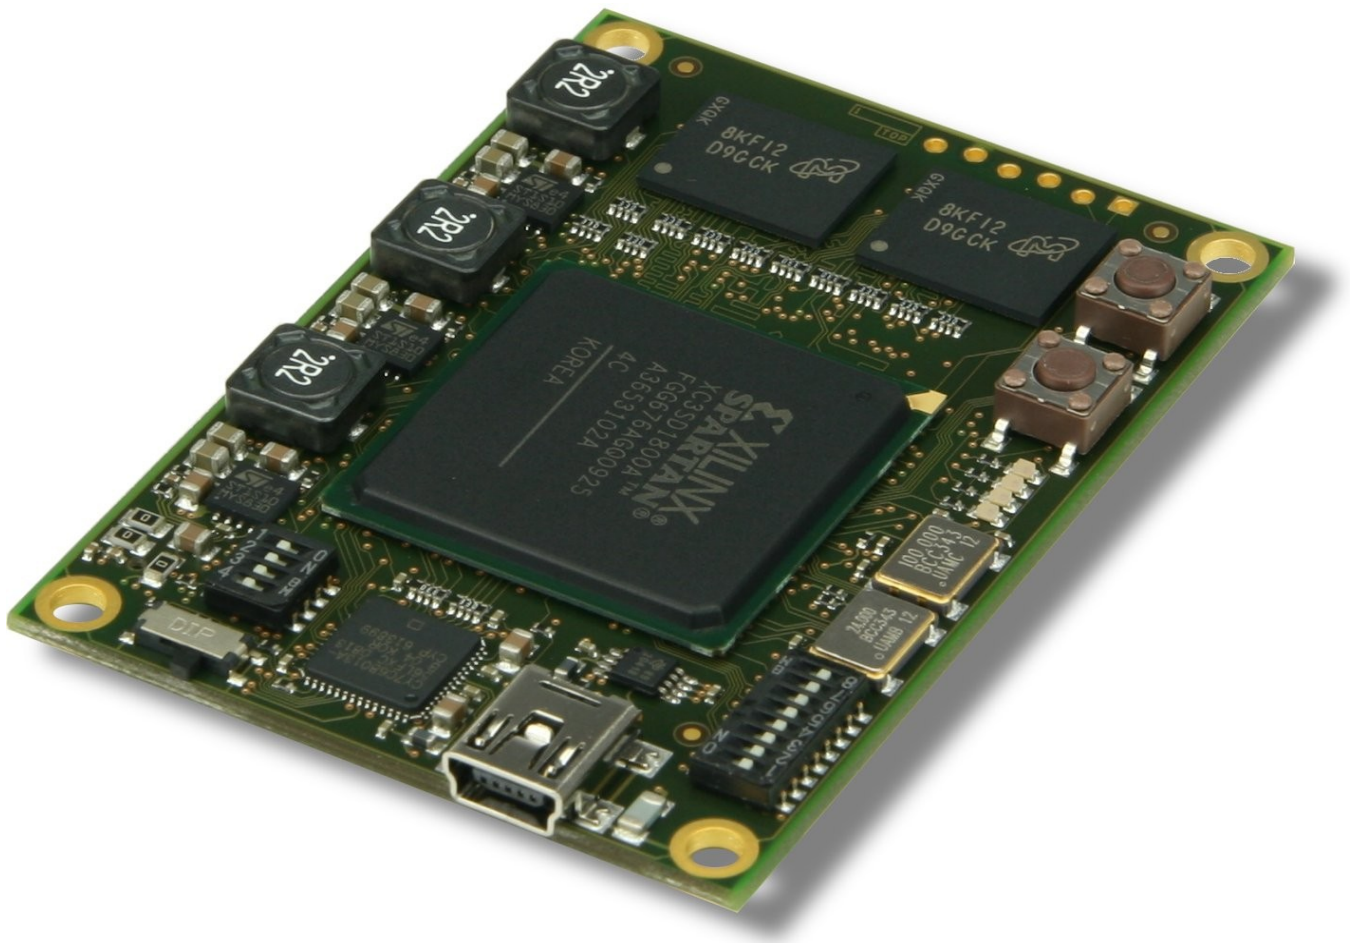

Figure 55: TE0320 angle view.
- (c) Figure 55: TE0320 angle view.